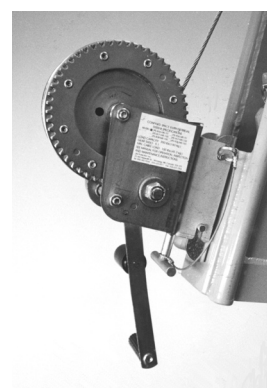

Figure 5b: PW Series Winch Quick-Connecting Sequence
- ii) Attach the winch to the quick connect mounting bracket. Raise the back frame plate over the anchor rod. Align the hitch pin hole. Secure the winch using the attached hitch pin. See Figure 5b